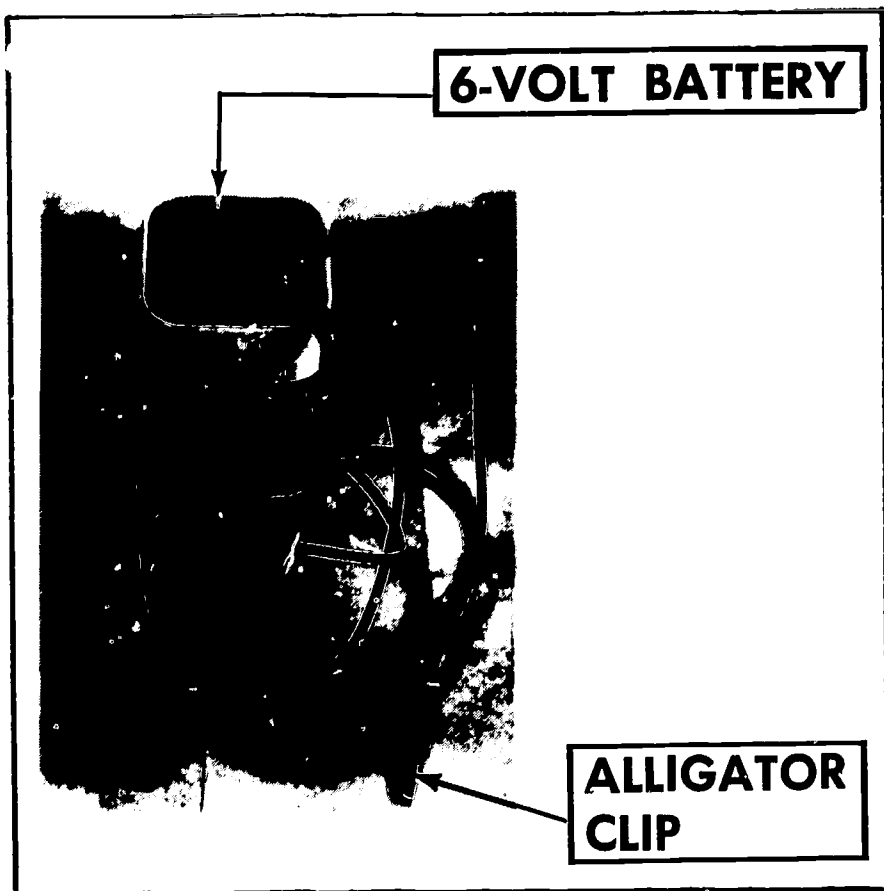

FIGURE 117. A 6-volt lantern battery rigged for checking coils.
- b. If you do not have a tester available, the coil and ignition circuit can be tested with a 6-volt lantern battery as shown in Figure 117. It is convenient to have an alligator clip on the end of one battery